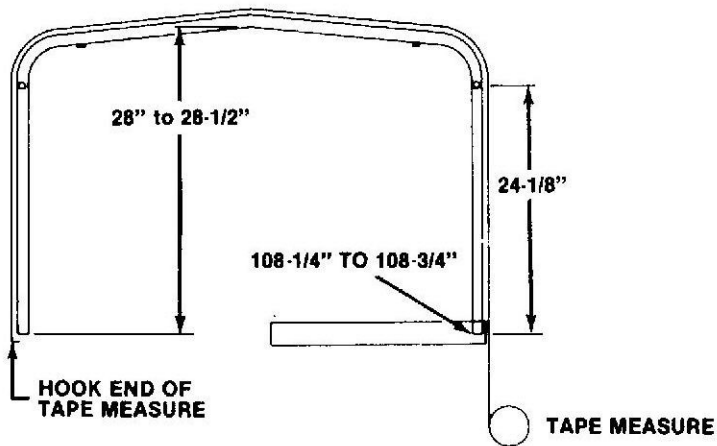

**Fig. 6 Vinyl Tape Installation**
- (14) Attach horizontal support rod bows to horizontal support rods using 1/4 x 20 screws.
- (15) Close doors and adjust vertical blades. Position blades so they are 3/8-inch away from inside of door frame.
- (16) Install vinyl tape on horizontal support rods (Fig. 6). Wrap 3-inch length of tape around each rod at point where vertical blade tab contacts rod.
- (17) Position fabric top across bows and attach top to rear bow using snap fasteners.
- (18) Remove horizontal support rods, insert rods through sleeves at each side of top, and install rods.
- (19) Attach forward edge of fabric top to front former.
- (20) Install fabric top snap studs in body sides. Starting at corner, stretch top, mark snap stud locations, and centerpunch and drill 1/8-inch diameter holes for studs. Attach snap studs using number 8 x 3/8 self-tapping screws. Tighten screws to 12 inch-pounds (1 N·m) torque and attach top to snap studs.
- (21) Install fabric top snap studs in back panel. Stretch top over panel, mark stud locations, and centerpunch and drill 1/8-inch diameter holes for studs. Attach snap studs using number 8 x 3/8 self-tapping screws. Tighten screws to 12 inch-pounds (1 N·m) torque and attach top to snap studs.
- (22) Install fabric top snap studs at windshield corners. Stretch top over corners, mark stud locations and centerpunch and drill 1/8-inch diameter holes for studs. Attach snap studs using number 3 x 3/8 self-tapping screws. Tighten screws to 12 inch-pounds (1 N·m) torque and attach top to snap studs.